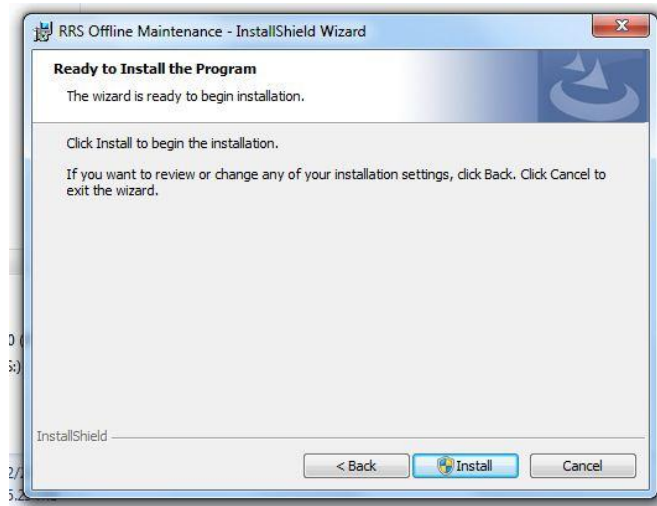

Figure C-10: OMS Installation
19. The *InstallShield Wizard* will appear for OMS. Click **Install** (Figure C-10).